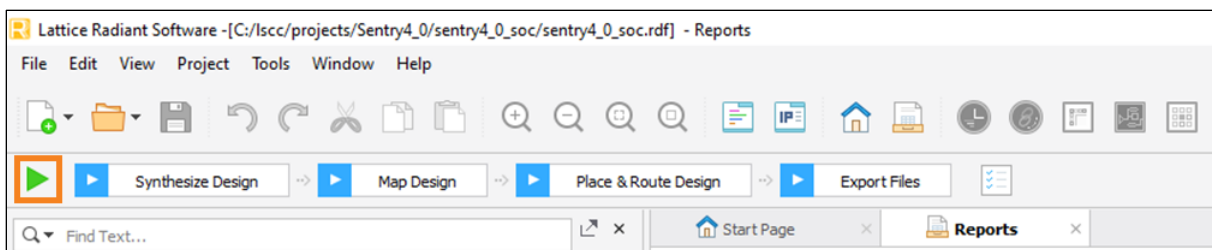

Figure 4.15. Lattice Radiant Software Synthesis/Map/PAR Process
4. In Lattice Radiant software, click the green arrow to run through the Synthesis/Map/PAR/export process to generate a signed bitstream (Figure 4.15).